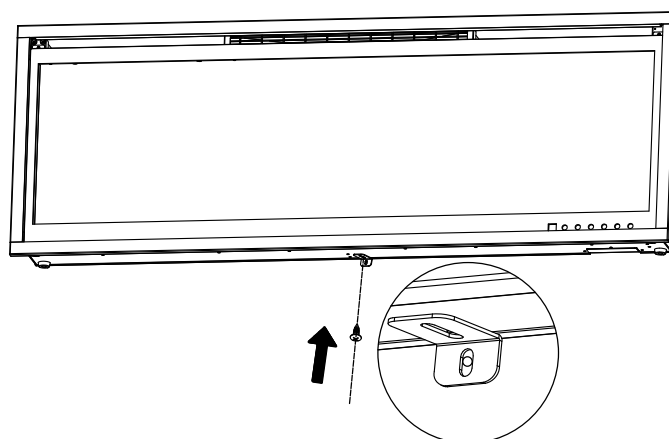

Fig 1-2
Step 2. Using the screw previously removed, attach the L-bracket (supplied) to the bottom of the fireplace box. **Fig 1-2**